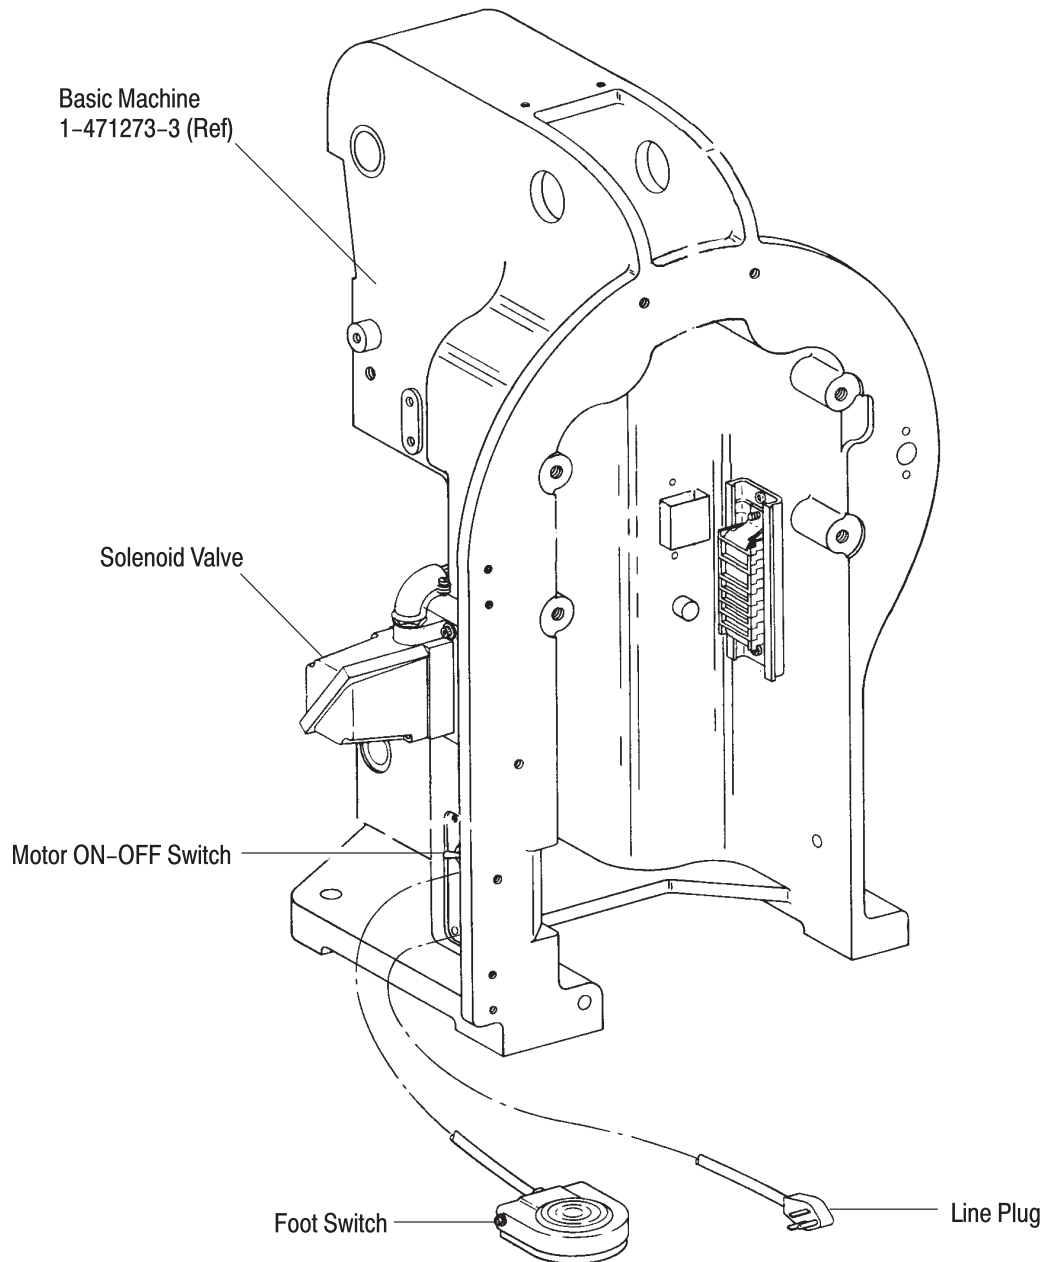
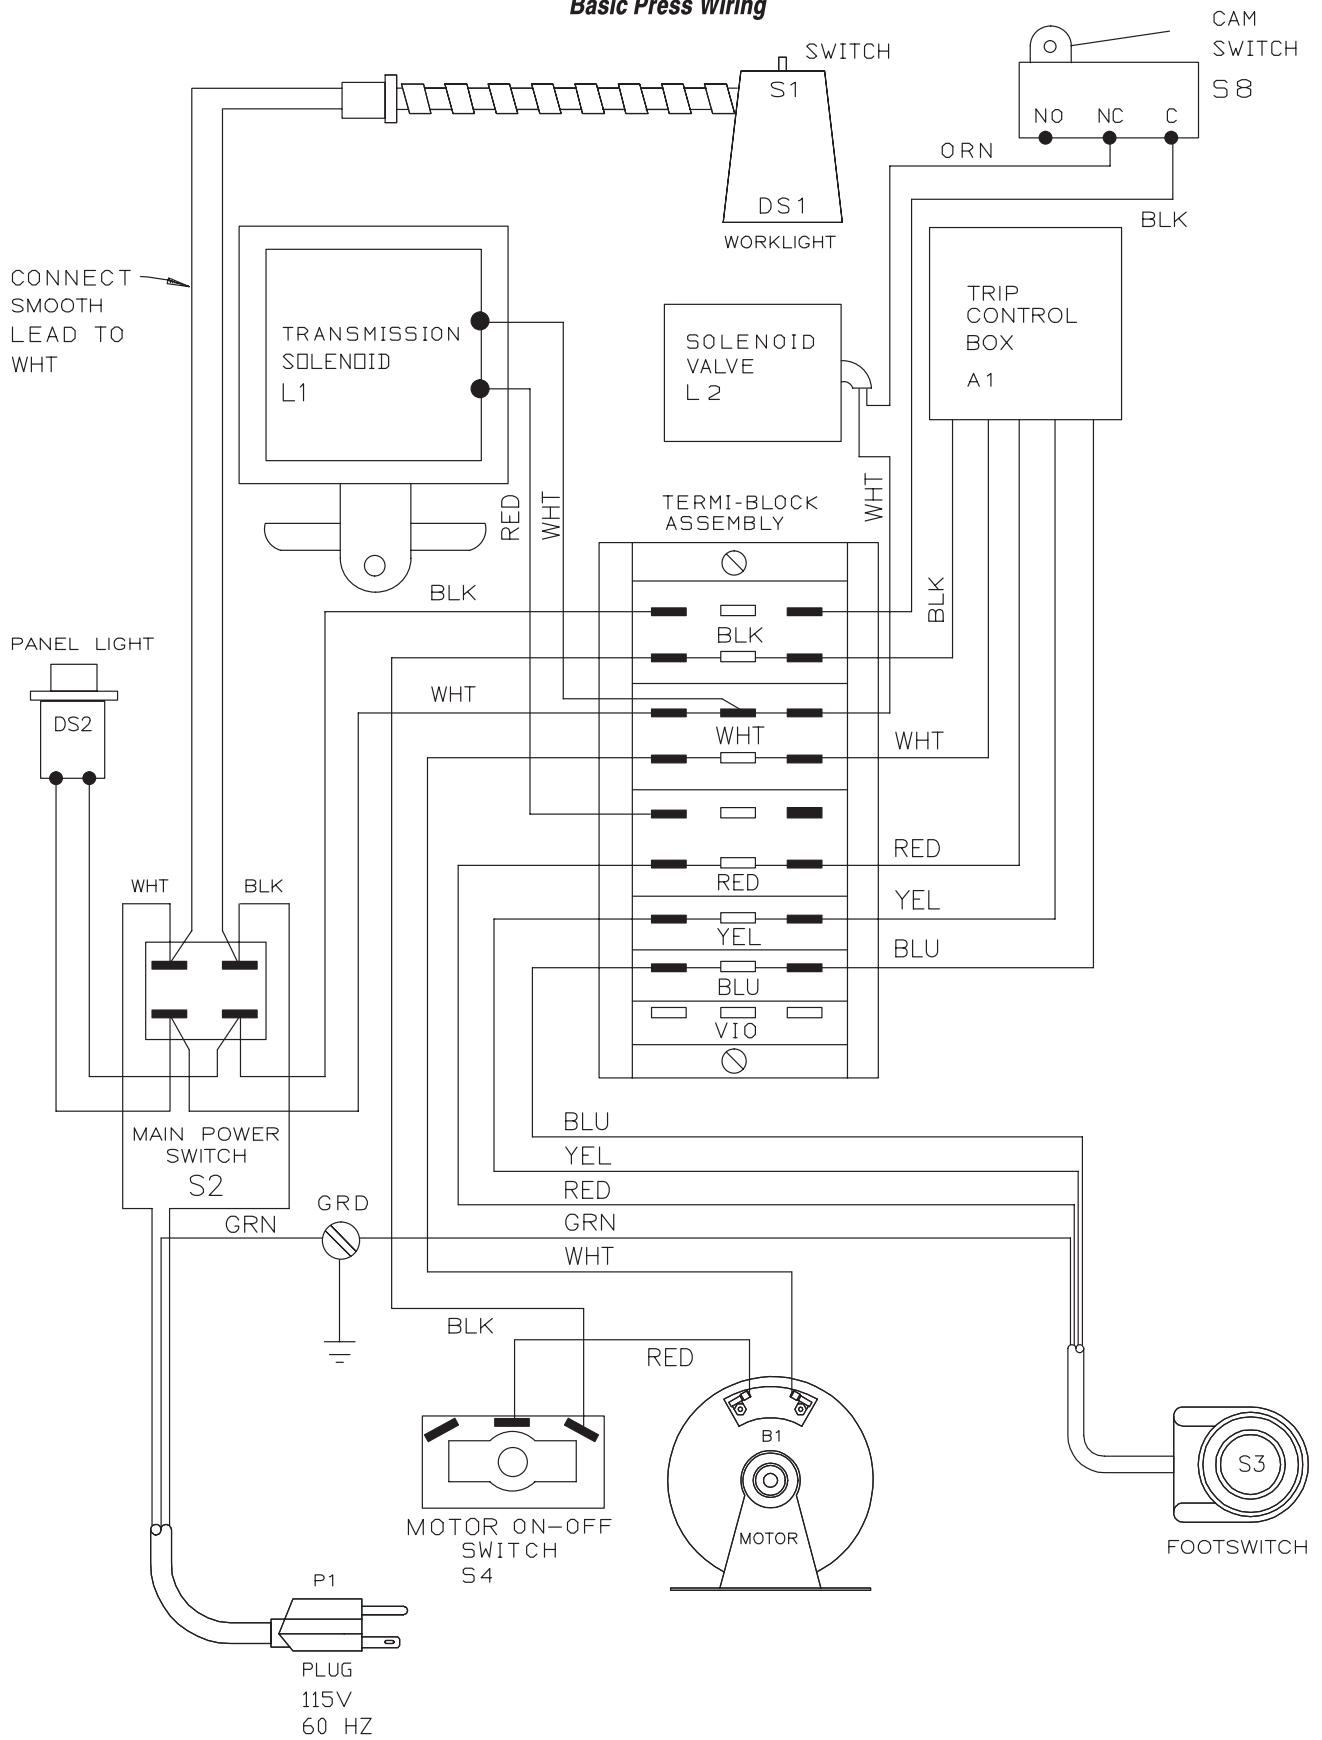

Figure 1
Figure 2
AMP-O-LECTRIC One-Valve Press 694234-7 (shown in Figure 1) is essentially the same as the basic machine with the exception of not having a mechanical or air feed and actuating components. In place of these, the one-valve press has a solenoid valve (L2), a cam on the eccentric arm of the transmission, a cam switch (S8), and a motor ON-OFF switch (S4)—refer to Figure 2 for location of these components.
The electrical system is basically the same as the basic machine covered in 409-5128 except with the addition of the solenoid valve (L2), cam switch (S8), and motor on-off switch (S4) as indicated in Figure 2.
The cam switch (item 7, Figure 3), located inside the back of the press behind the flywheel, must be actuated by the cam (item 12, Figure 3) on the transmission. When actuated, it OPENS the circuit between the common post (C) and the normally closed post (NC) (see Figure 2). When de-actuated, this circuit is CLOSED to energize the solenoid valve (L2). If necessary, to adjust the cam switch, refer to Figure 3, and proceed as follows:
1. Gain access by removing the side access cover (item 4).
2. Loosen two screws (item 5), and move the cam switch (item 7) in the desired direction, then re-tighten the screws after the correct adjustment is made.
- Added Figure 1
- Removed part number 253588-1 from Figure 2